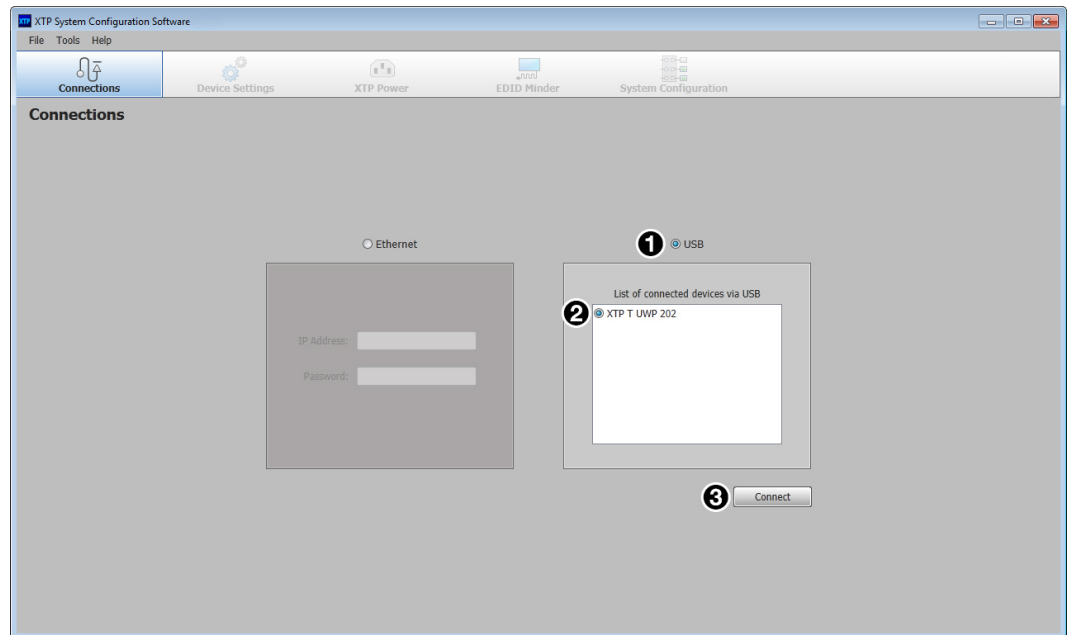

Figure 22. Connections Screen
2. From the **Connections** screen, select the **USB** radio button (see figure 22, **1**).